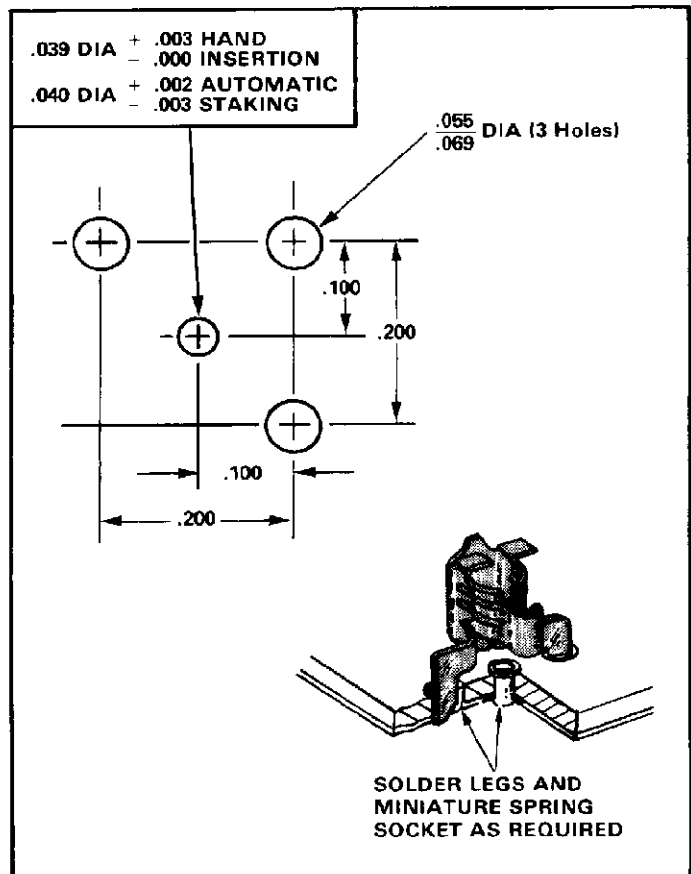

Fig. 2
1. Prepare board by drilling holes as indicated by the dimensions in Figure 2.
3. Insert legs of disconnect contact into appropriate holes in pc board as described in Figure 2, and solder as required.